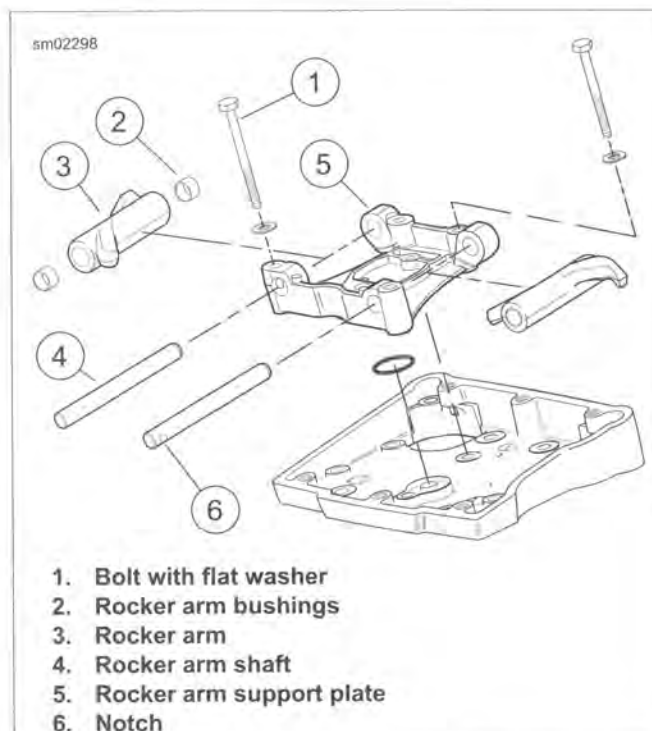

Figure 3-27. Rocker Arm Assembly
1. See Figure 3-27. Remove four bolts and flat washers (1) from the rocker arm support plate (5).
2. Remove the rocker arm shafts (4) so that the notched ends exit the rocker arm support plate (5) first. Use a hammer and brass drift if necessary. Mark the shafts so that they are installed in their original locations at time of assembly.
2. See Figure 3-27. Check rocker arms (3) for uneven wear or pitting where contact is made with the valve stem tips. Check for concave wear where rocker arms contact the pushrod ends. Replace rocker arm if excessive wear is found.
3. Verify that oil holes in rocker arms and rocker arm support plate (5) are clean and open.
4. Inspect rocker arm shafts (4) for scratches, burrs, scoring or excessive wear. Replace as necessary.